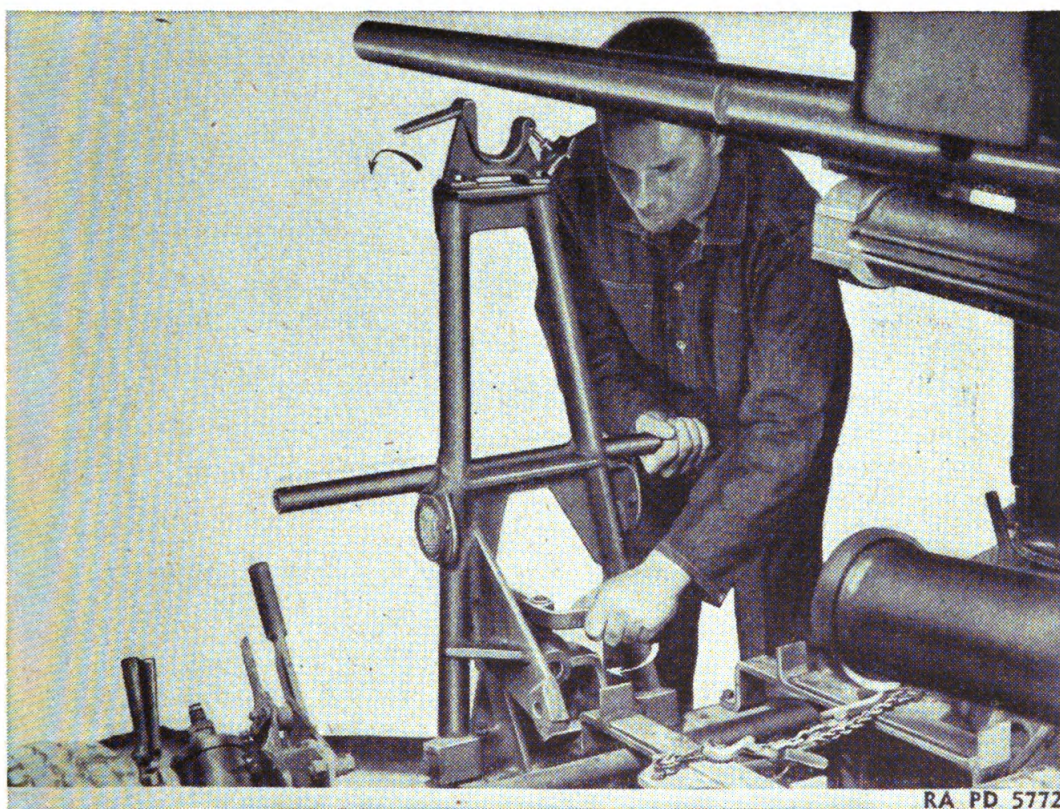

FIGURE 39.—Lowering gun support.
(2) Push the gun support lever (fig. 39) toward the center of the carriage and lower the gun support.